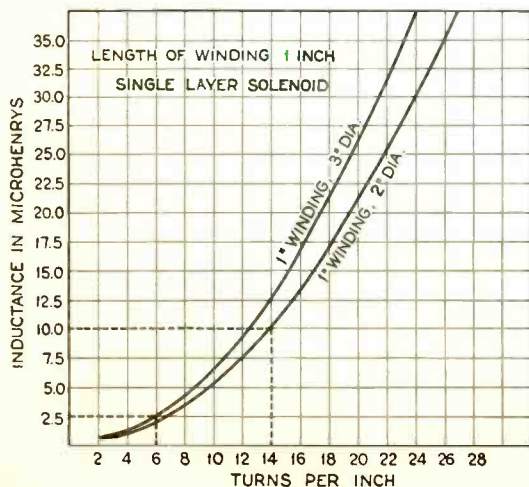

FIG. 38
Having determined the inductances, let us now delve into the construction of such coils. We know what value of inductance is required; let us now determine just how many turns are necessary. Conventional practice has definitely decided upon the single layer solenoid as best for short-wave inductances, and we will not deviate from this decision. Here again, we can resort to the use of formulae, by constructing one inductance of a few turns, calculating the inductance by means of the Lorenz formula (18) or Nagaoka's formula, (19) previously published, and adding or subtracting turns. The chart shown in Fig. 38 obviates the necessity of calculation;